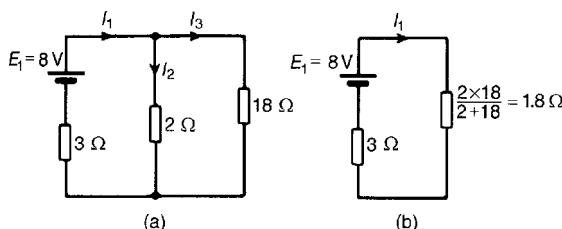
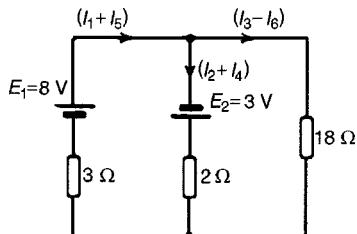

Figure 13.22
Figure 13.24
1. Removing source  $E_2$  gives the circuit of Fig. 13.22(a)
2. The current directions are labelled as shown in Fig. 13.22(a),  $I_1$  flowing from the positive terminal of  $E_1$
From Fig 13.22(b),
From Fig 13.22(a),
5. Superimposing Fig. 13.23(a) on to Fig. 13.22(a) gives the circuit in Fig. 13.24